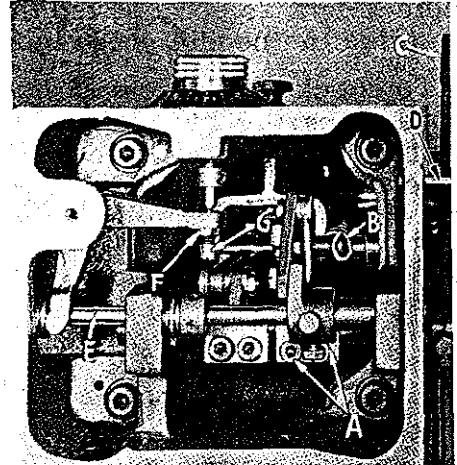
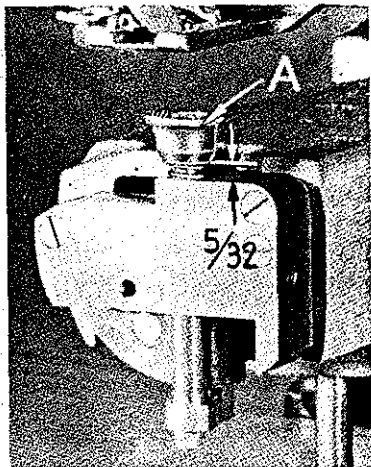
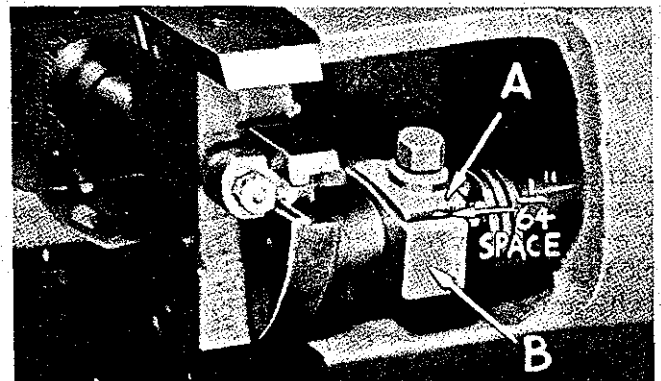
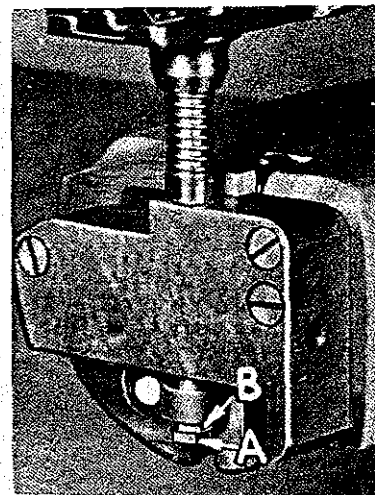

Fig. 8
Fig. 9
Fig. 10
Fig. 11
shaft (E) clockwise until bottom of work clamp (A, Fig. 9) is 5/32 inch above plunger bearing block. Tighten clamp screws (A, Fig. 8) and re-engage spring (B).
With machine in stop position, tilt machine on side, pull penetration dial out, and turn clockwise as far as it will go. Loosen locknut (F, Fig. 8), and adjust screw (G) until space between plunger block (A, Fig. 10) and crank (B) is 1/64 inch. Lock nut (F, Fig. 8) securely. Tip machine back, engage clutch, and turn pulley in operating direction until point of looper is over center of needle. Loosen locknut (A, Fig. 11) and adjust plunger up or down by means of nut (B) until point of looper just contacts needle. Lock nut (A) securely.
Tip machine on its side and loosen clamp screws (A, Fig. 8). Disengage spring (B) from crank roll. Depress lever (C) until it rests against its stop pin (D). Turn plunger